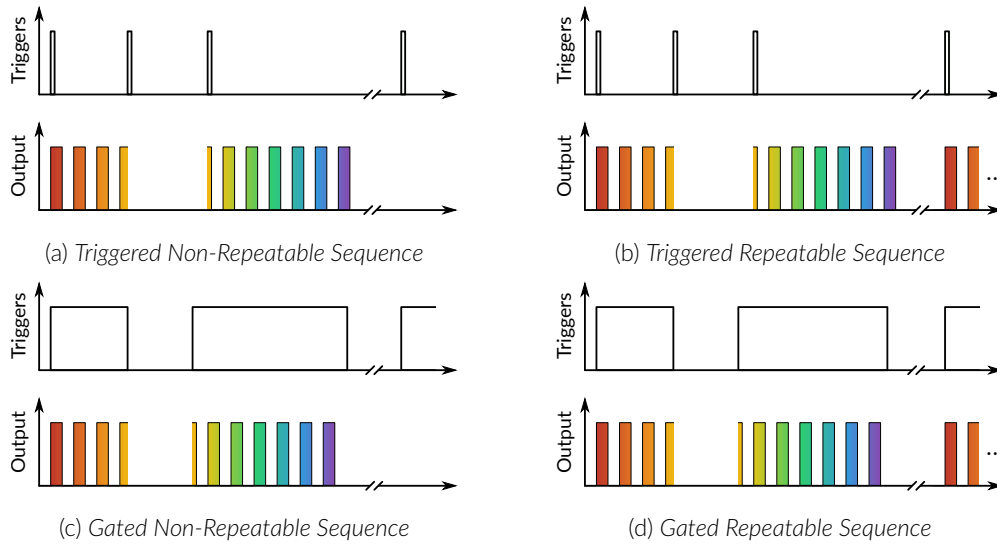

Figure 5.4: Pause Sequence Mode
- **Pause:** This mode activates the channel sequence when a rising edge greater than 3.3 V is detected on the BNC input (Fig. 5.4). Following input pulses (when *Triggered*, Fig. 5.4a) or falling edge (when *Gated*, Fig. 5.4c) will pause the sequence and the sequence will continue when the next rising edge is received. When the **Repeatable sequence** checkbox is checked, the sequence will restart with the arrival of the first input pulse after the sequence has finished (Figs. 5.4b and 5.4d).